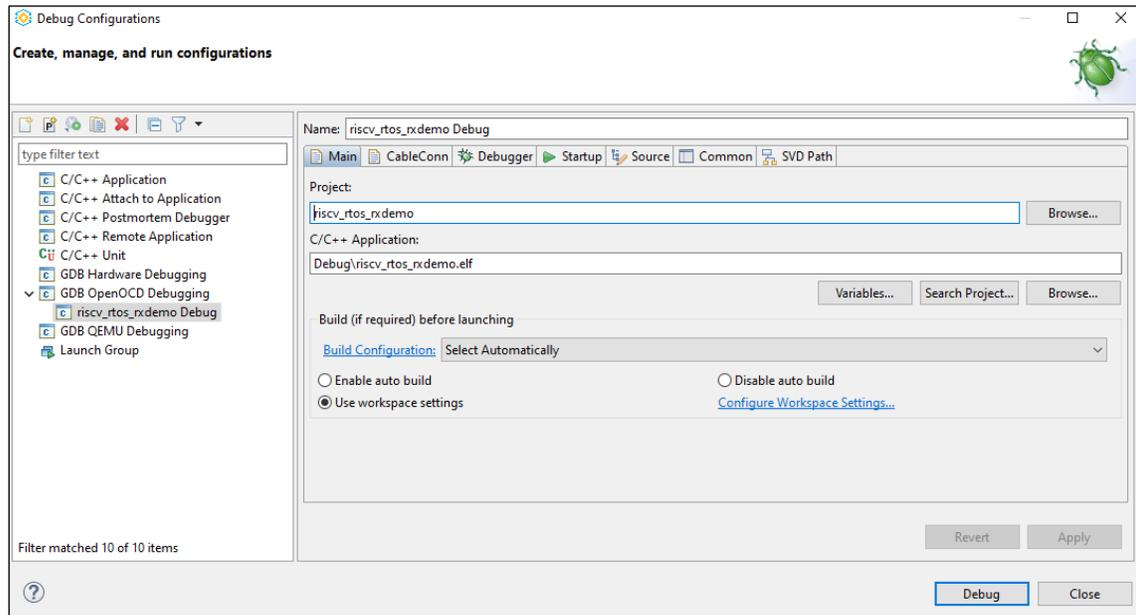

Figure 6.5. Debug Configuration
3. Double-click **GDB OpenOCD Debugging** to create a new launch configuration (Figure 6.5).